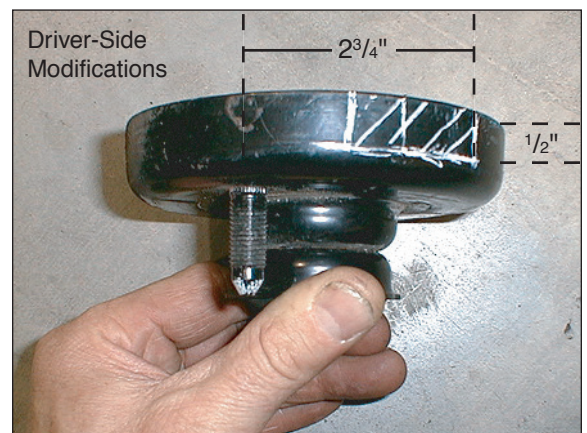

Figure 7
3. Measure down $\frac{1}{2}"$ from the flat edge of the strut mount (Figure 7). Cut this area out of the upper strut mount (Figure 8). Smooth the rough edges and paint the exposed areas.